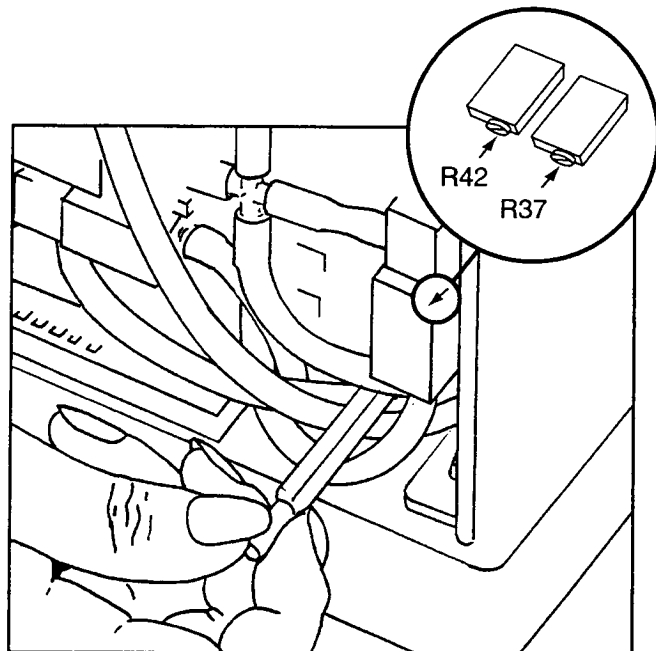

Figure 3-13. Locations of R37 and R42
Calibration of the Model 9340 Monitor temperature detection circuits requires adjustments be made to R37 and R42 located on the foil side of the display PWA as shown in Figure 3-13.
4. Adjust R37 on the foil side of the display PWA as shown in Figure 3-13 for a **TEMPERATURE** front panel reading of  $956 \pm 1$ .
6. Adjust R42 on the foil side of the display PWA as shown in Figure 3-13 for a front panel **TEMPERATURE** display reading of 948.